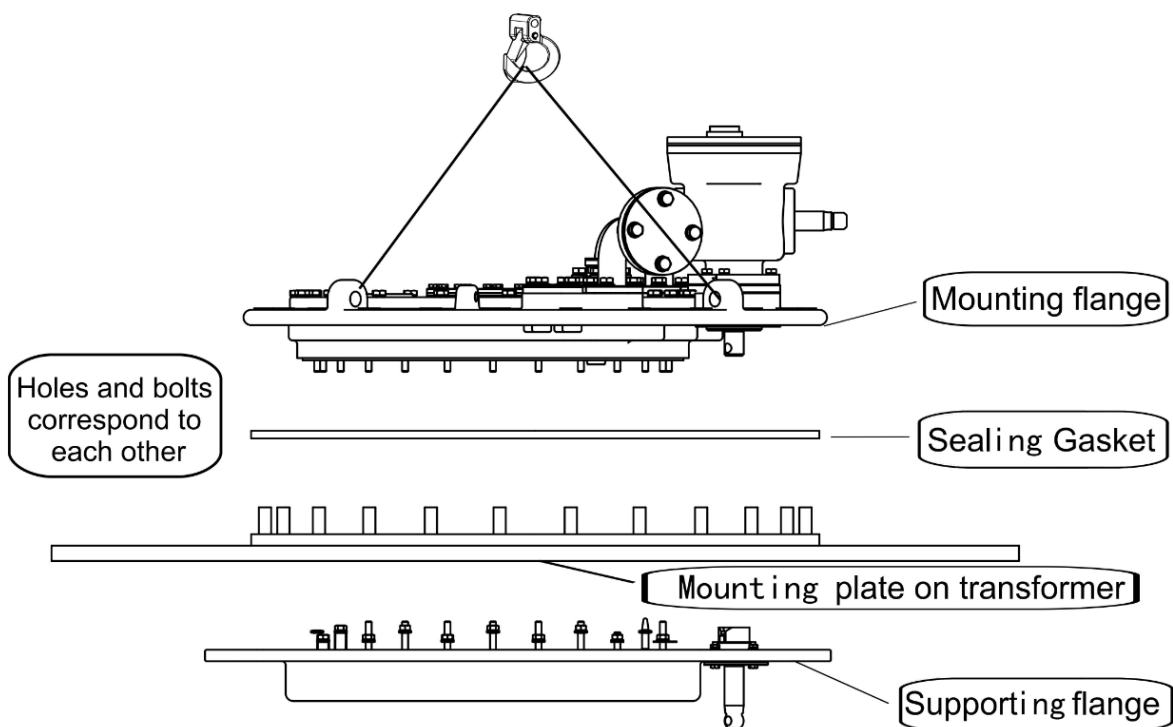

Figure 4.2.11
4.2.5.4 Lift the mounting flange onto the on-load tap-changer . Make sure that all screws of the supporting flange are accurately positioned in the fixing holes of the on-load tap-changer (see Figure 4.2.11).